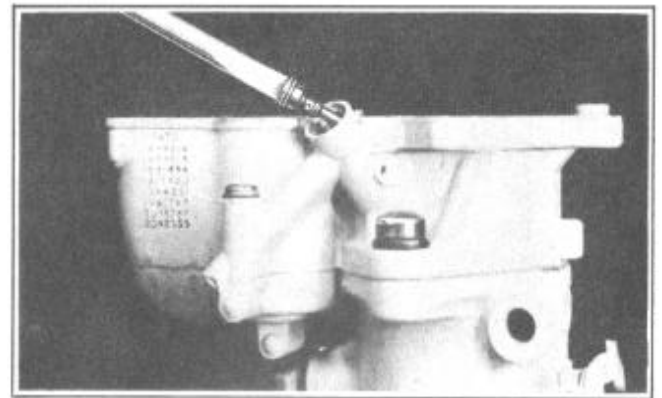

FIGURE 22
8. Remove pump discharge ball retainer and gasket, and check ball, Figure 22.